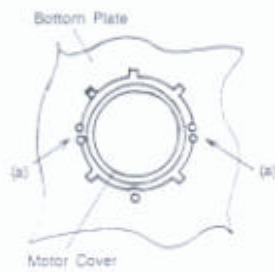

Fig. 9.7
- a) Remove the turntable motor cover by breaking off at the 2 spots indicated by arrows with a cutter or the like. (Fig. 9.7)